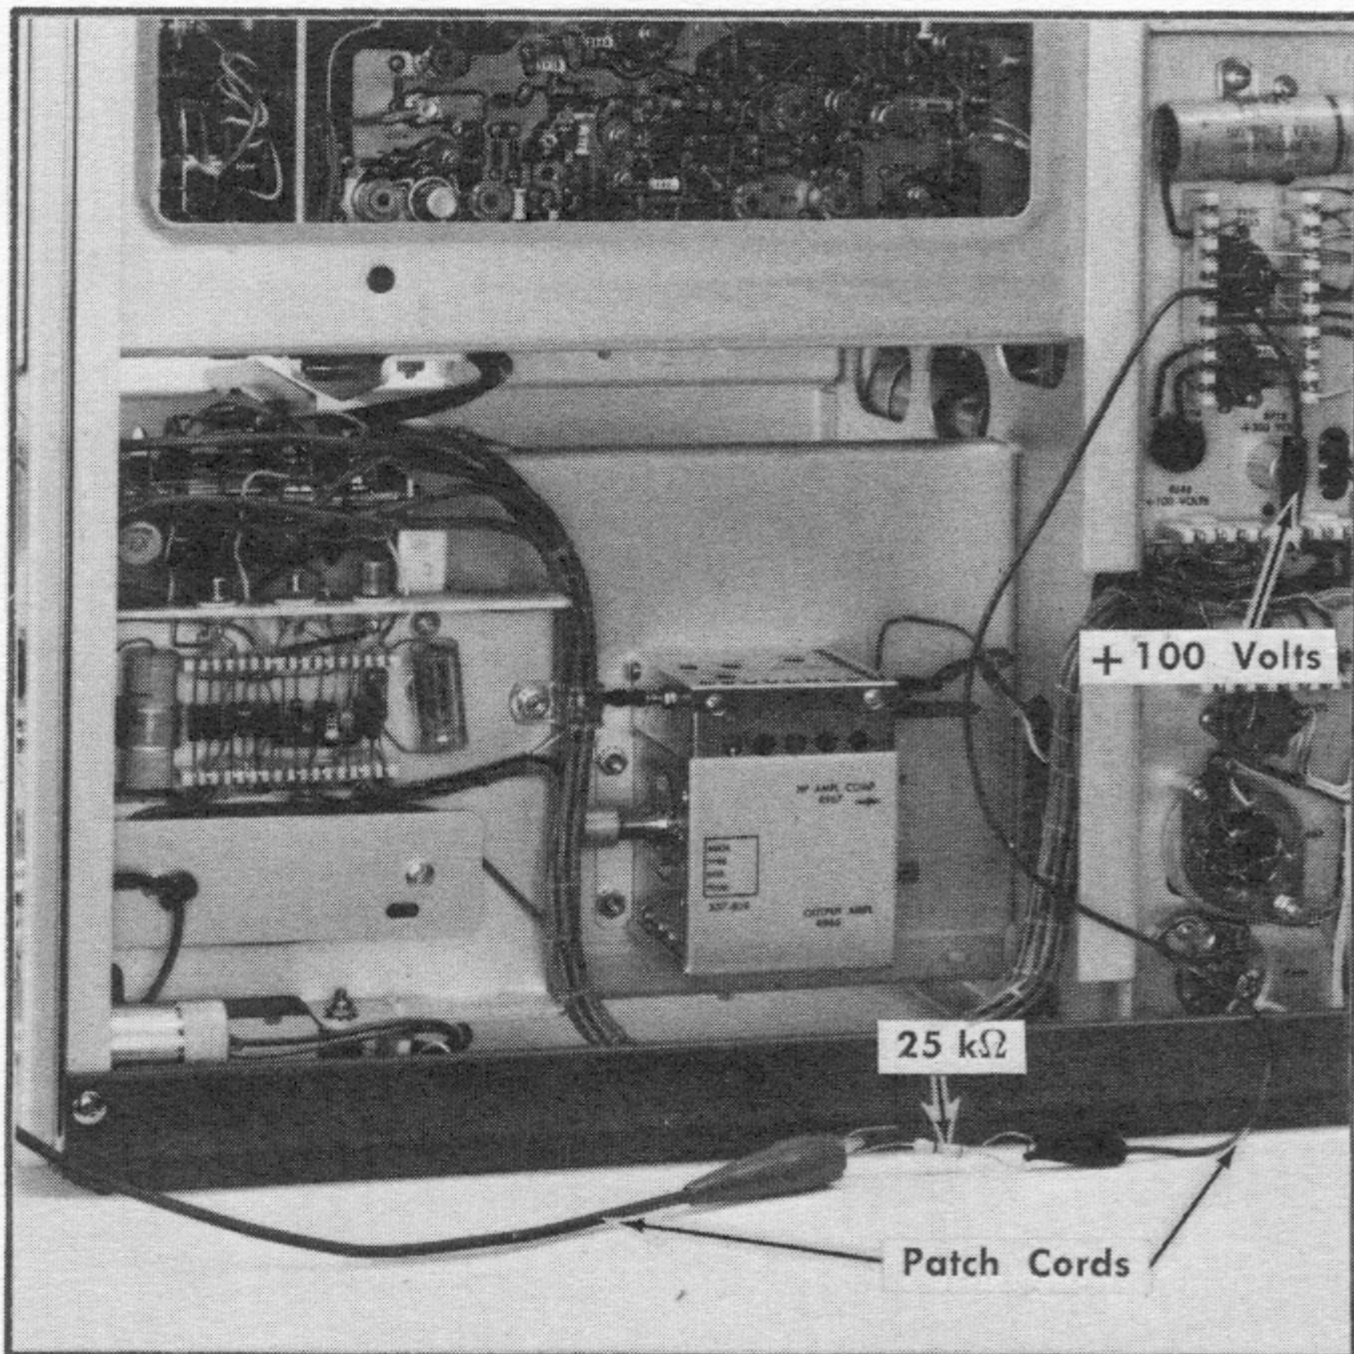

Fig. 6-10. Connection of the 25 kΩ resistor from +100 V to Ext. Input 25 k.
b. Connect a $24.9\text{ k}\Omega$, $\frac{1}{2}$ -watt, 1% resistor between a $+100$ -volt test point and the EXT INPUT $25\text{ k}\Omega$ terminal, See Fig. 6-10.